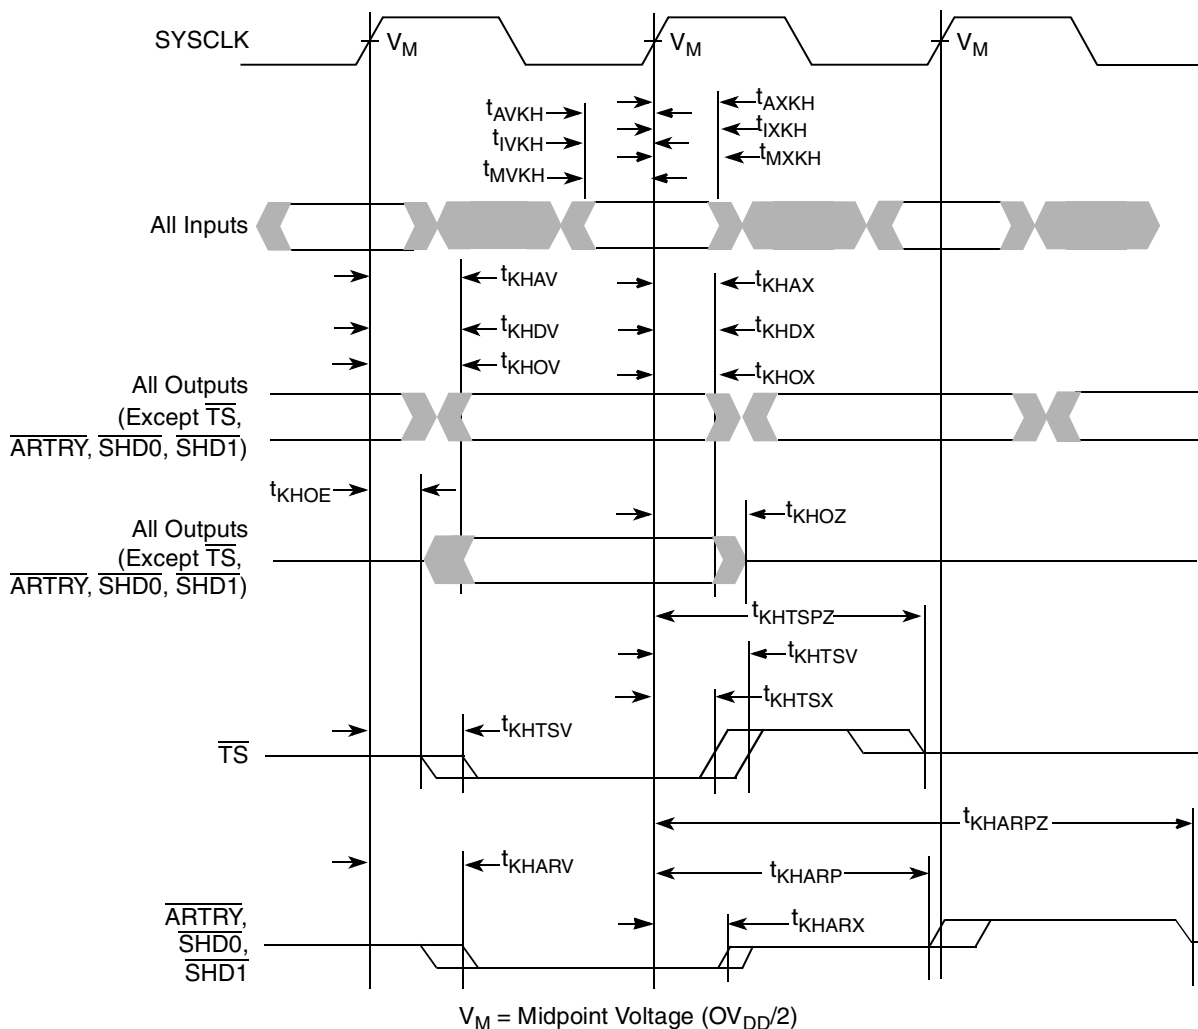

Figure 6. Input/Output Timing Diagram
- The symbology used for timing specifications herein follows the pattern of $t_{(\text{signal})(\text{state})(\text{reference})(\text{state})}$ for inputs and $t_{(\text{reference})(\text{state})(\text{signal})(\text{state})}$ for outputs. For example, t_{VVKH} symbolizes the time input signals (I) reach the valid state (V) relative to the SYSCLK reference (K) going to the high (H) state or input setup time. And $t_{\text{KH OV}}$ symbolizes the time from SYSCLK(K) going high (H) until outputs (O) are valid (V) or output valid time. Input hold time can be read as the time that the input signal (I) went invalid (X) with respect to the rising clock edge (KH) (note the position of the reference and its state for inputs) and output hold time can be read as the time from the rising edge (KH) until the output went invalid (OX).
- According to the bus protocol, $\overline{\text{TS}}$ is driven only by the currently active bus master. It is asserted low and precharged high before returning to high impedance, as shown in Figure 6. The nominal precharge width for $\overline{\text{TS}}$ is $0.5 \times t_{\text{SYSCLK}}$, that is, less than the minimum t_{SYSCLK} period, to ensure that another master asserting $\overline{\text{TS}}$ on the following clock will not contend with the precharge. Output valid and output hold timing is tested for the signal asserted. Output valid time is tested for precharge. The high-impedance behavior is guaranteed by design.
- According to the bus protocol, $\overline{\text{ARTRY}}$ can be driven by multiple bus masters through the clock period immediately following $\overline{\text{AACK}}$. Bus contention is not an issue because any master asserting $\overline{\text{ARTRY}}$ will be driving it low. Any master asserting it low in the first clock following $\overline{\text{AACK}}$ will then go to high impedance for 1 clock before precharging it high during the second cycle after the assertion of $\overline{\text{AACK}}$. The nominal precharge width for $\overline{\text{ARTRY}}$ is $1.0 t_{\text{SYSCLK}}$; that is, it should be high impedance as shown in Figure 6 before the first opportunity for another master to assert $\overline{\text{ARTRY}}$. Output valid and output hold timing is tested for the signal asserted. The high-impedance behavior is guaranteed by design.
Figure 6 provides the input/output timing diagram for the MPC7447A.